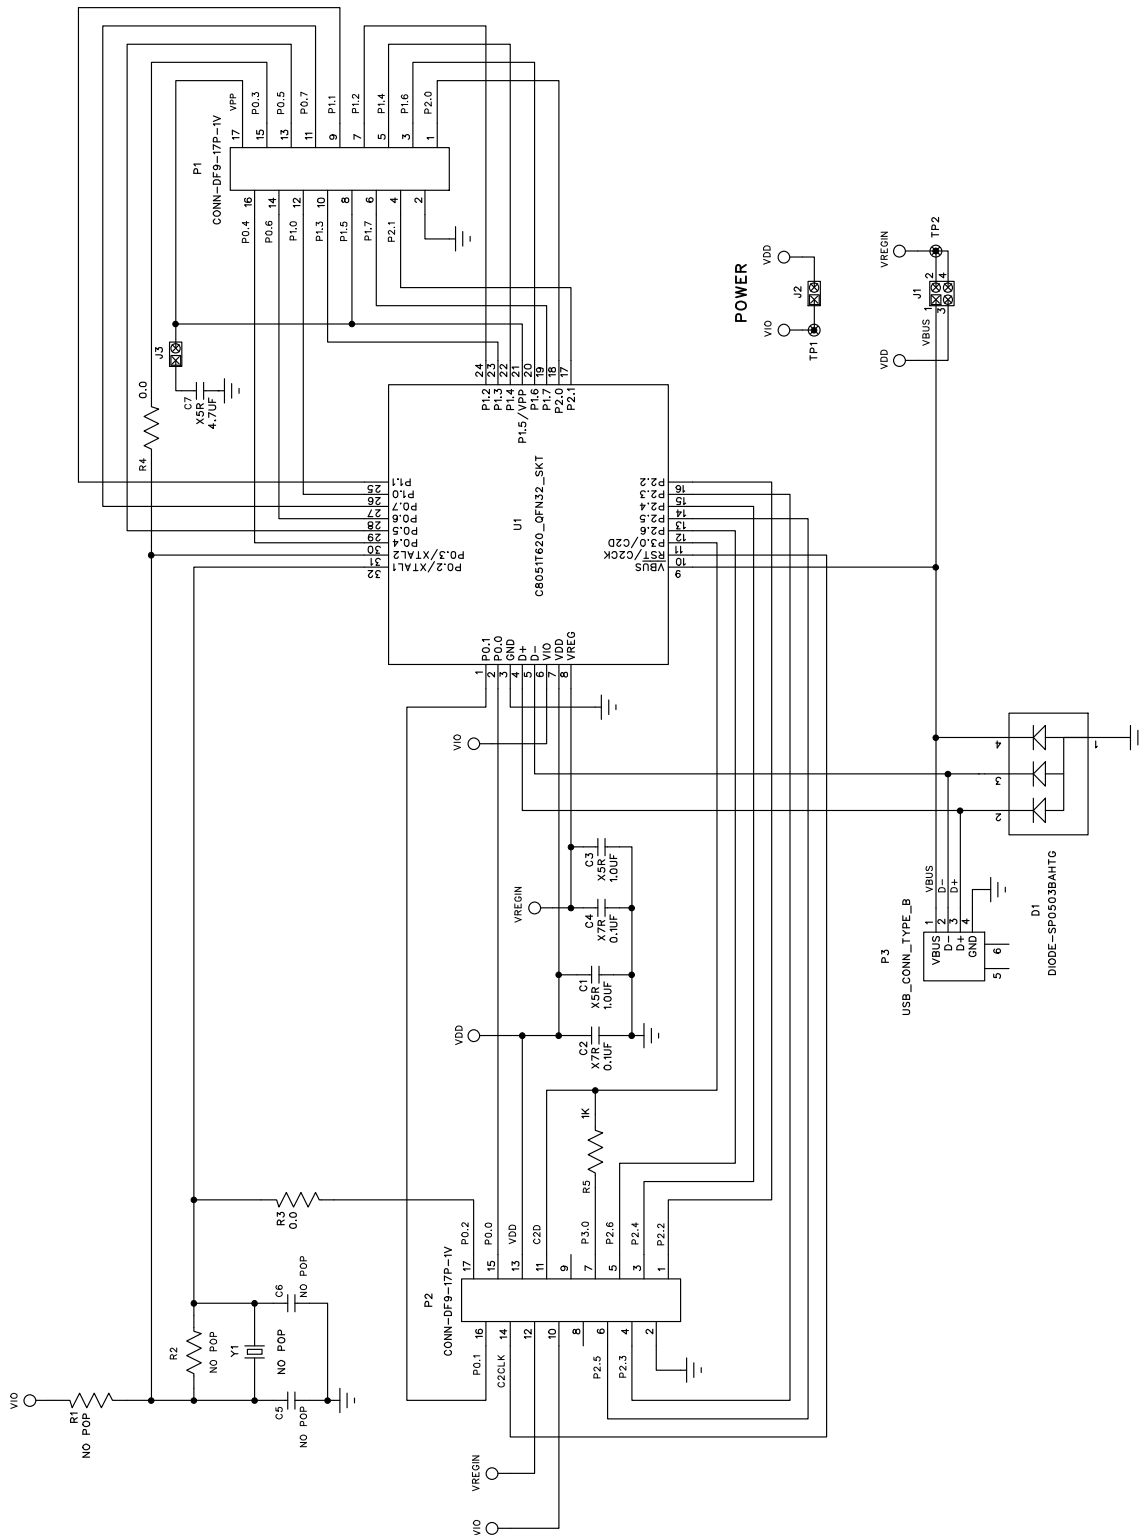

Figure 17. C8051T620 QFN-32 Daughter Board Schematic
- Updated Figure 17 on page 21.